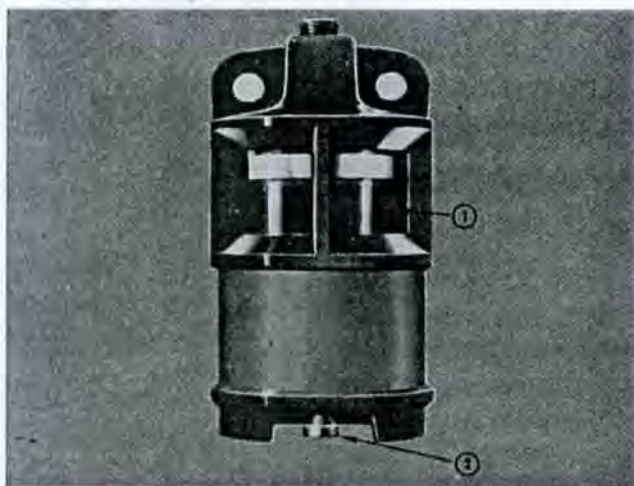

Fig. 2-7, (CGS-20). Air inlet restriction indicator
A mechanical restriction indicator is available to indicate excessive air restriction through a dry-type air cleaner. This instrument can be mounted in the air cleaner outlet or on the vehicle instrument panel. The red flag (1, Fig. 2-7) in the window gradually rises as the cartridge loads with dirt. After changing or replacing the cartridge, reset the indicator by pushing the reset button (2).